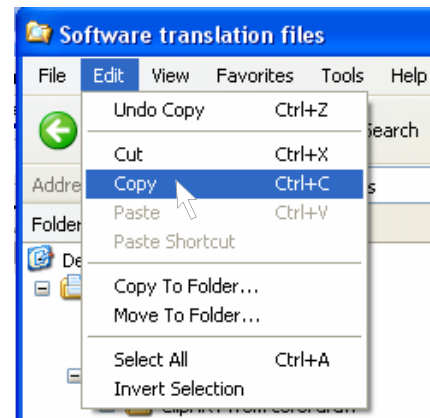

Figure 2.2
4. Click "Edit," "Copy" from the Menu Bar to copy these files to the Clipboard (Figure 2.2).